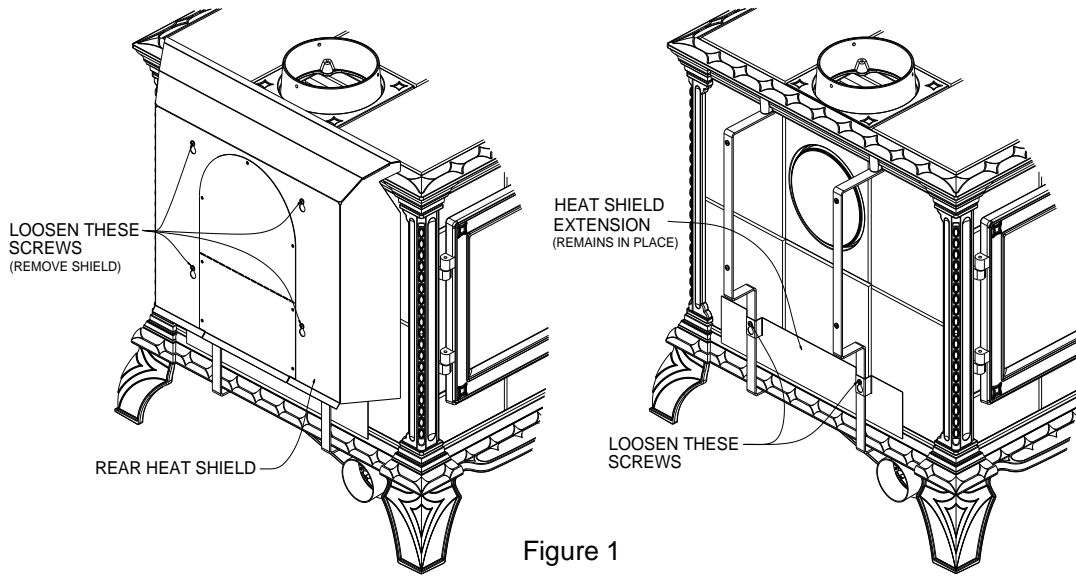

Figure 1
2. Loosen the screws that mount the heat shield extension (Figure 1).